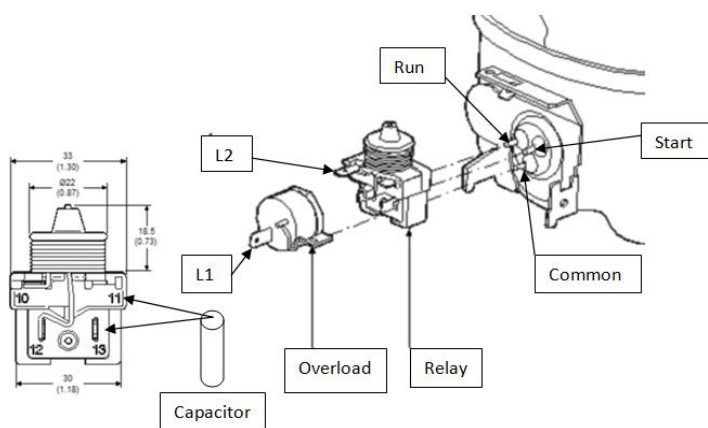
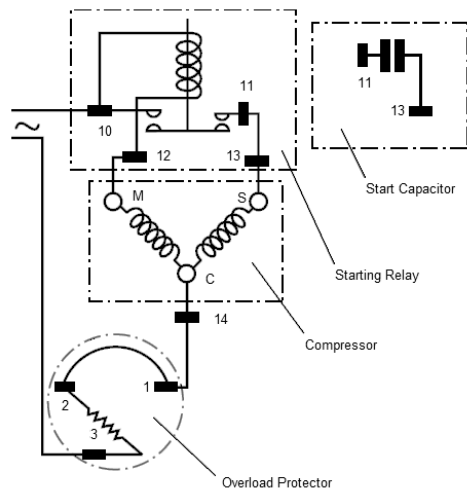

Fig 21a. Embraco Compressor
Fig. 21b Embraco 1/3 HP Compressor Schematic
- Check compressor windings using ohmmeter. Refer to above TABLE 1, Figure 21a and Figure 21b.